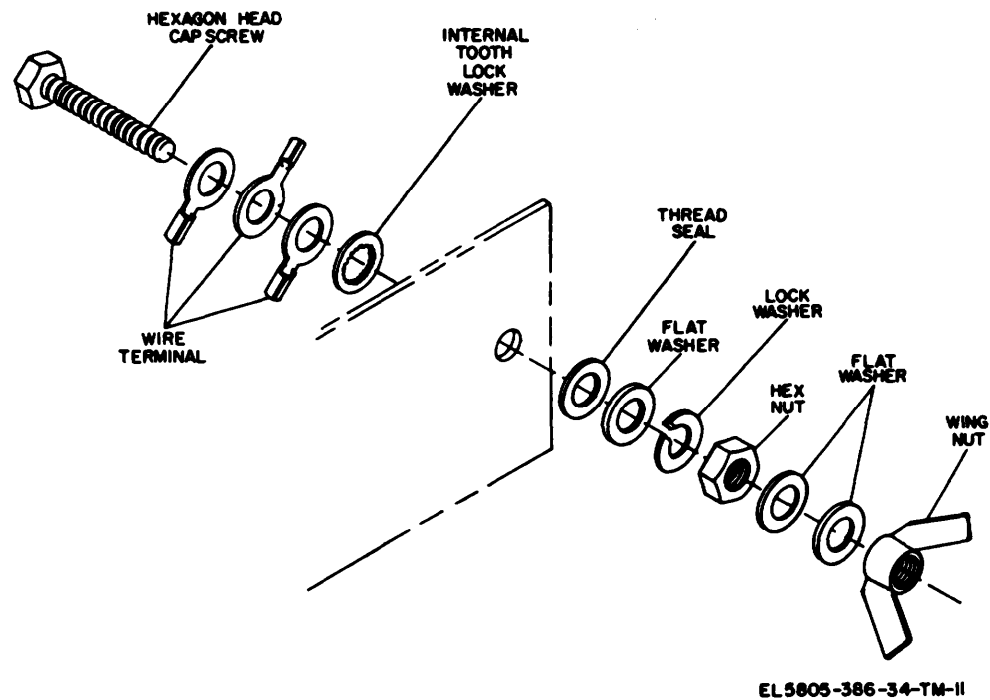

Figure 2-12. Ground lug replacement.
(1) Set li-rings, shoulder washer and binding post into rear panel.
(2) Slide washer and terminal lug over binding post stud and secure with nut.
(3) Reinstall main chassis (para 2-9d).
d. *Removing GND Lug E15 Rear Panel* (fig. 2-12).
(1) Remove main chassis from the case (para 2-9 c).
(2) Remove wing nut and two flat washers from ground lug.
(3) Remove hex nut, lock washer, flat washer, and thread seal from ground lug.
(4) Slide ground lug out of panel (from inside of chassis) and remove lock washer and two wire terminals.